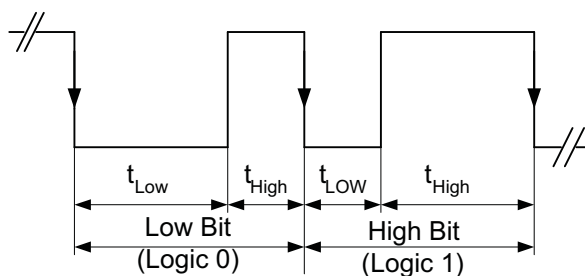

Figure 16. EasyScale Bit Coding
- **High Bit:** $t_{HIGH} > t_{LOW}$, but with t_{HIGH} at least twice the duration of t_{LOW} , see Figure 16.
- **Low Bit :** $t_{HIGH} < t_{LOW}$, but with t_{LOW} at least twice the duration of t_{HIGH} , see Figure 16.